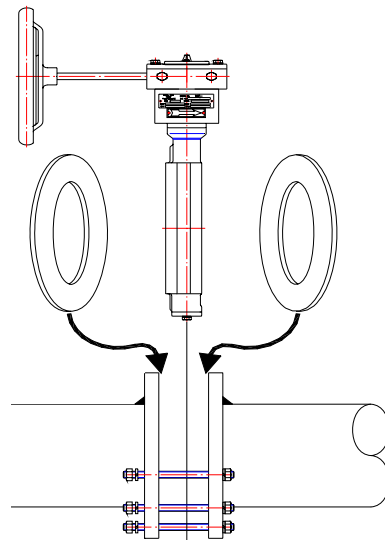

Fig.14
7.5. Install valve and gaskets into pipeline as (Fig. 14).